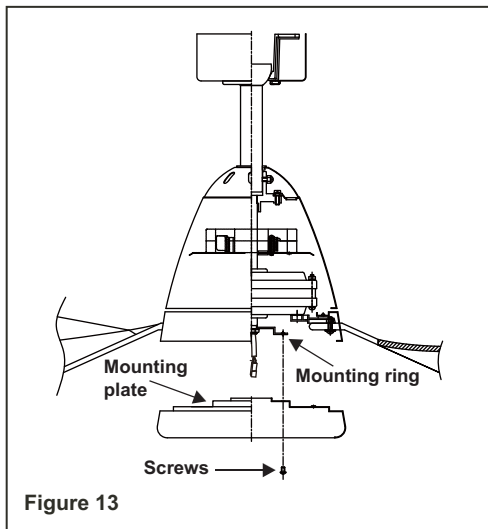

Figure 13
Step 2. Place the key holes in the mounting plate over the two screws previously loosened from the mounting ring. Turn the mounting plate until the decorative cover locks in place at the narrow section of the key holes. (Fig. 13)